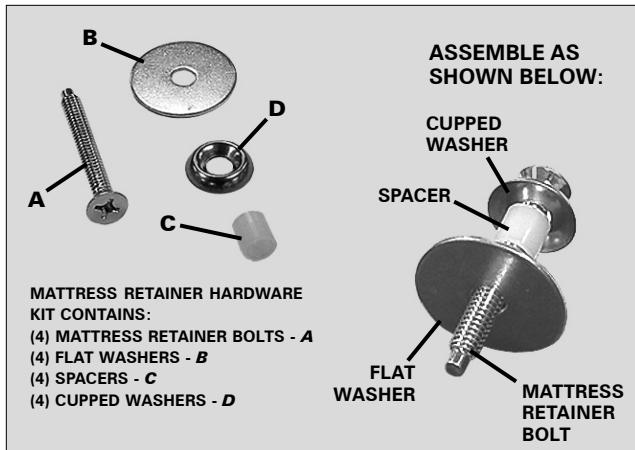

FIGURE 4: Mattress retainer hardware.
- Install (1) cupped washer, (1) spacer and (1) flat washer on (4) mattress retainer bolts (FIGURE 4).